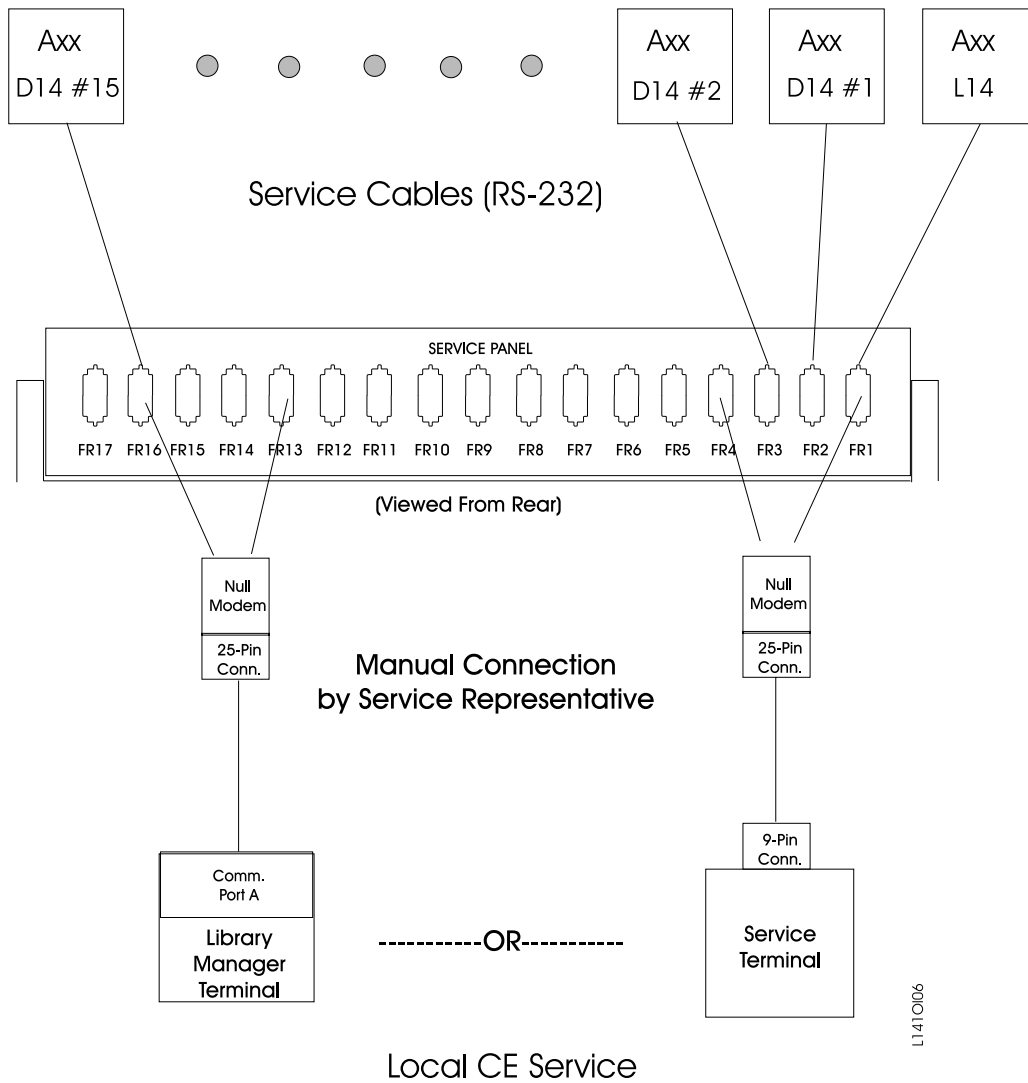

Figure 20. A60 Controller Service Panel Attachment—Local CE Service(new style)
1. Local CE Service (see Figure 20 on page 188)